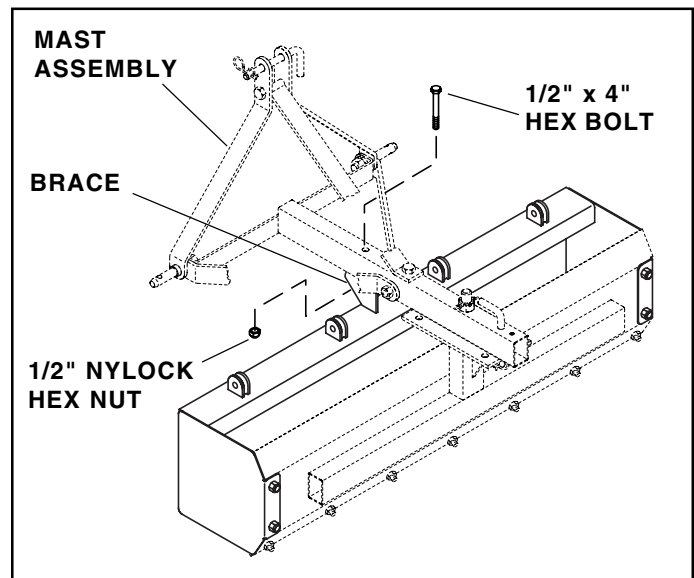

FIGURE 2
2. Connect the brace located on top of the box scraper to the mast assembly using a 1/2" x 4" hex bolt and 1/2" Nylock hex nut. **Tighten all nuts now.** See figure 2.